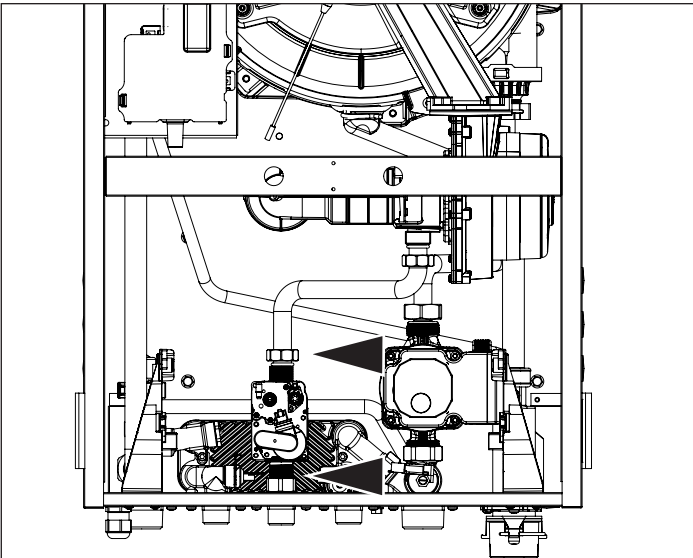

Figure 95 - Disconnect the Gas Line
- Remove the two nuts above and below the gas valve. See Figure 95.